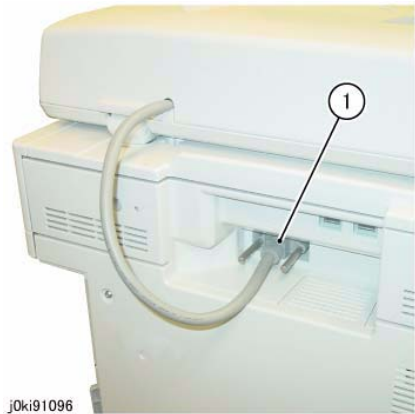

Figure 1 Disconnect the connector
3. Loosen the screws (x2) and disconnect the connector. (Figure 1)